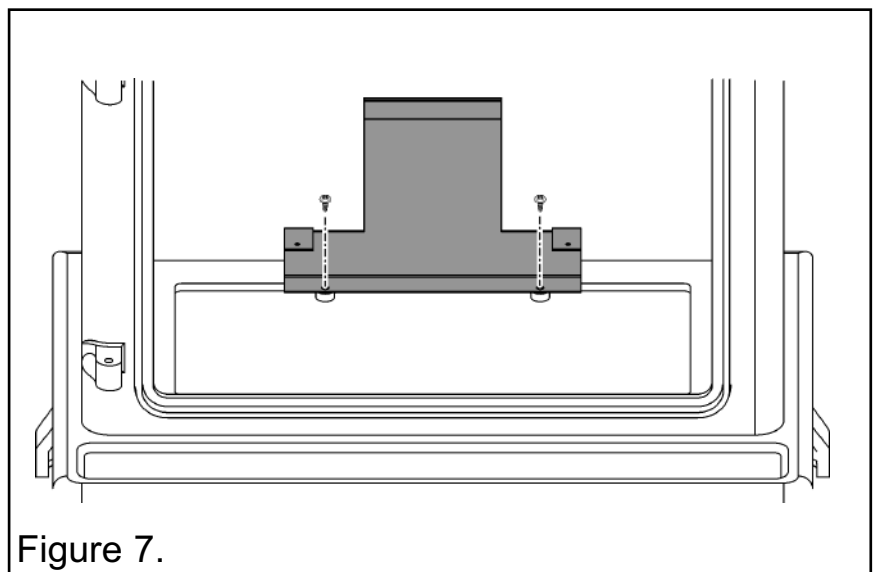

Figure 7.
3. The rear leg at the back of the stove base has been secured using two No.4 x 10mm screws (See figure 7).